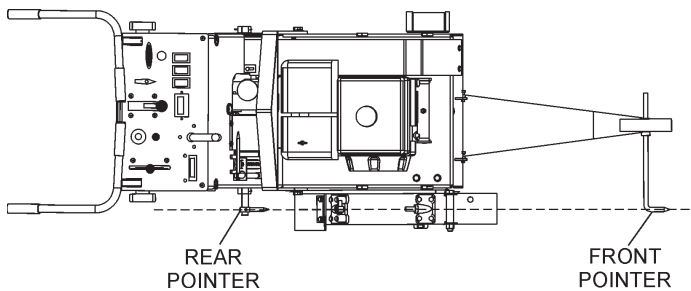

Figure 25. Saw Pointers (Front/Rear)
1. The FS2/FS2SP employs a front and rear pointer (Figure 25) that has been precisely aligned with the diamond blade at the factory. Referencing the figure below, accurate tracking is accomplished by referencing the front and rear pointer tips over the cut line. Precise saw direction is accomplished by slight operator pressure against the handle bars.